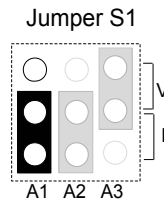

Figure 4.13 Terminal A1 Set to Current Input
4. Set the drive to accept current based (4 to 20 mA) Feedback Set the A1 terminal of Jumper S1 to current type input (I) as shown in Figure 4.13. Set parameter H3-01 to 2 (4 to 20 mA) for signal type on A1. Set parameter H3-02 to 23, function of the A1 input, Well Level feedback